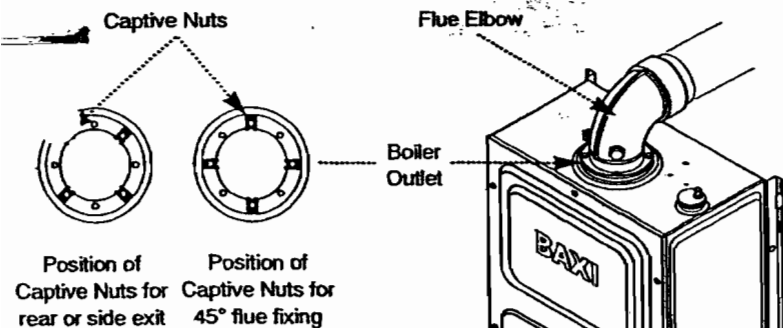

Fig. 21
3. Fit the captive nuts supplied in the kit to the boiler outlet (Fig. 21) to match the slots on the flue elbow for rear, side and 45° flue exit.